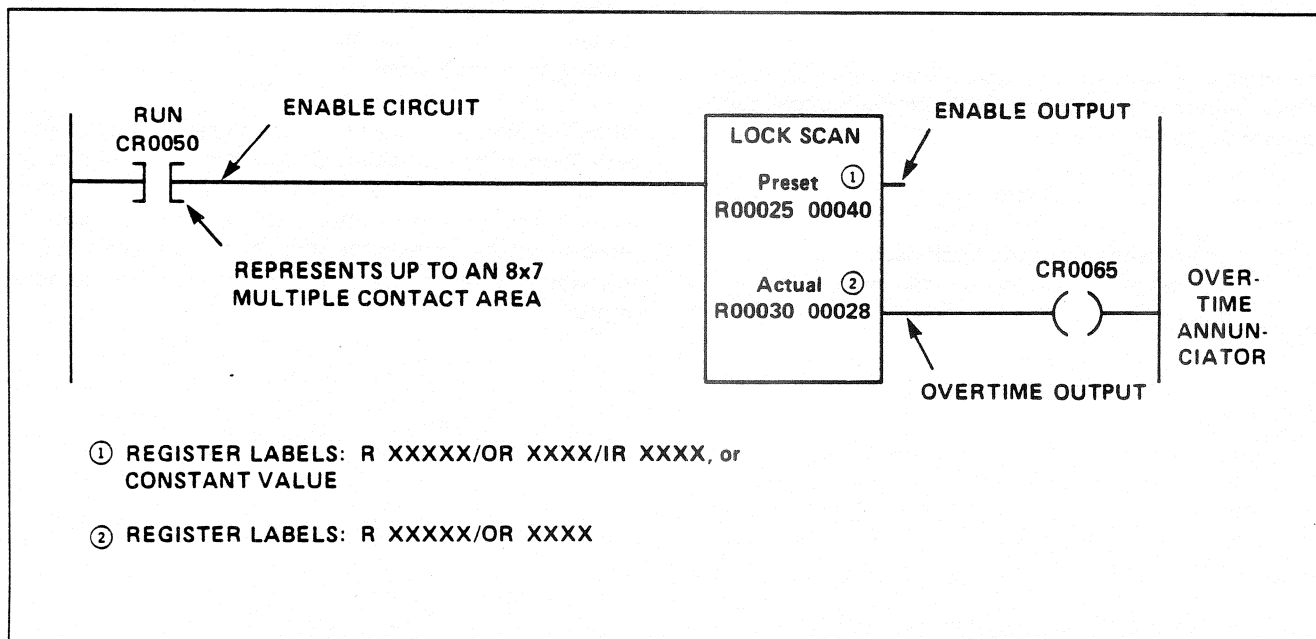

Figure LS-1. Lock Scan Circuit (Typical)
The Lock Scan programmable function allows the ladder diagram scan time to be increased to a predetermined length of time. Also, if the time exceeds the predetermined limit, an "overtime" output from the function can be used to signal that the scan exceeded the predetermined time limit. Figure LS-1 shows a typical circuit containing the Lock Scan function. Observe the Figure and note the following 5 points:
1. The Preset Register defines the time, in milliseconds, of the desired overall program scan. In this example, the contents of R00025 contain, in binary form, a whole number equal to the desired milliseconds. As shown in Figure LS-1, the Preset displays the time in decimal format at the right of the Preset Register.